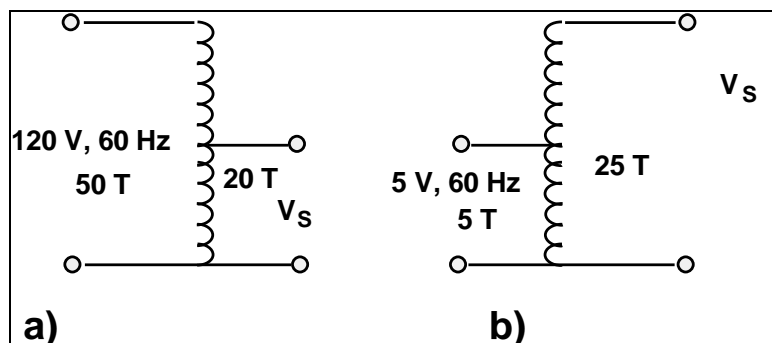

Fig. 2.1-20
5. Find the secondary voltage for each auto-transformer in the Fig. 2.1-20